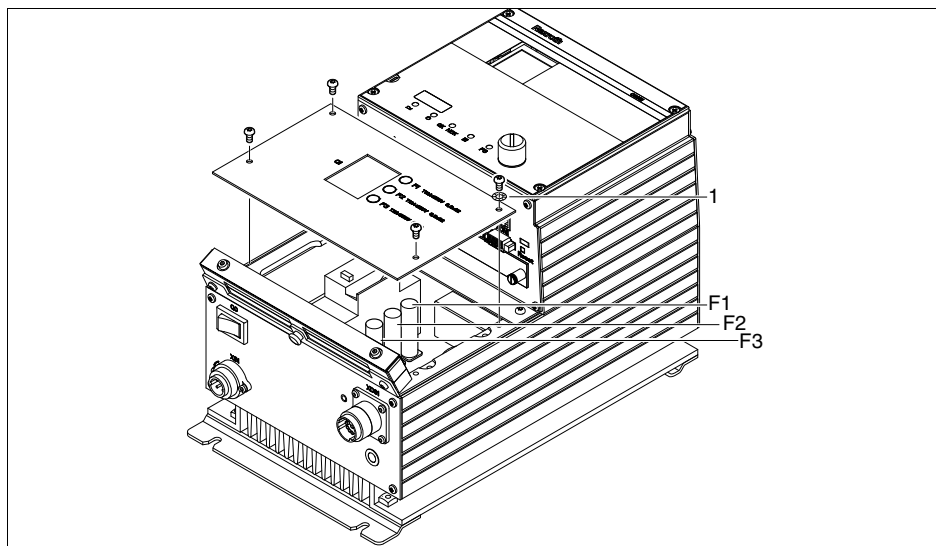

Fig. 37: Fuses
- Exchange the fuses (see Fig. 37).